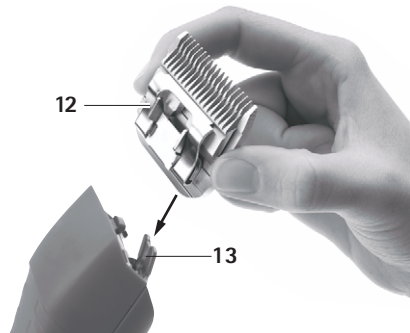

Fig. 2
- Install blade **12** on open knife hinge **13**, see Fig. 2.
- Press blade **12** gently in the direction of the clipping machine FAV5 CL/Fortis, see Fig. 2. The blade **12** engages with an audible click.